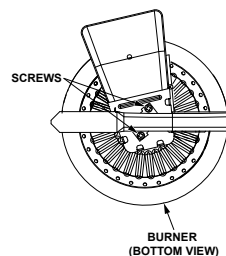

FIGURE 36.
1. Take off the burner by removing the two (2) screws located underneath the burner.
2. Check the burner to see if it is dirty or clogged. The burner may be cleaned with soap and hot water (Figure 36).